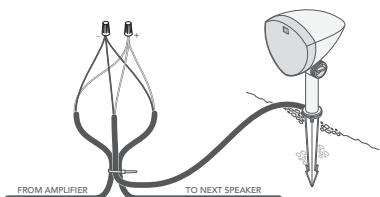

Figure 10
8. Cut the two wires for the left or right speaker (see the tables below) and strip 3/4" of insulation on the exposed ends of the burial wires, then strip 3/4" insulation from the ends of the corresponding speaker's pigtail (see Figure 10).
9. Create a loop of approximately 10", and use a wire tie to hold the wire loop and speaker pigtail in place to provide strain relief (see Figure 10).